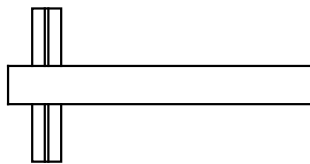

Figure 3-13 ENC82L–Chain Retainer Lock
- 13) Feed long flat end of the chain retainer (see Figure 3-13) through the middle of a chain link then move the retainer lock into position where round peg fits into small round mounting hole.